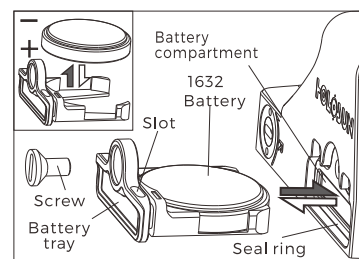

Fig 4
3. Battery Replacement (Fig 4):